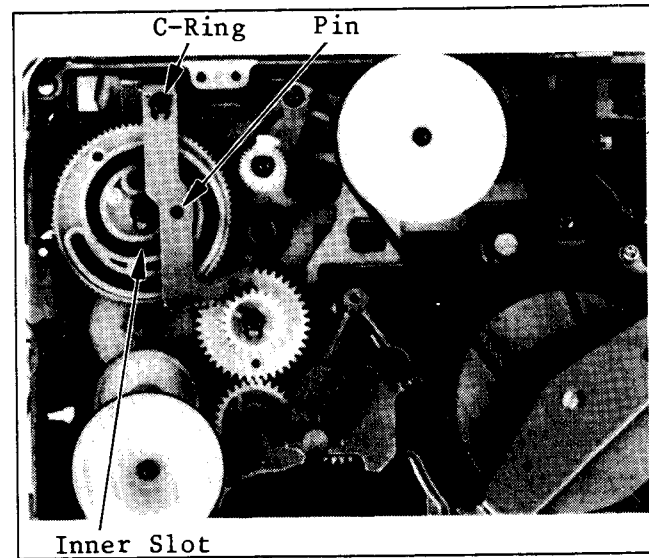

Fig. M33-4 Adj. Procedure
5. Install the sector gear so that the pin on the sector gear meets the inner slot of the cam gear as shown in Fig. M33-4. Also install C-Ring in order to mount sector gear.